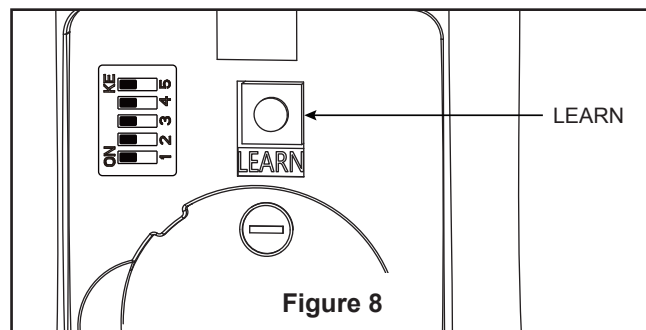

Figure 8
- ☐ **10. Remote Control Speed (RPM) Setting Process : (Figure 8)**